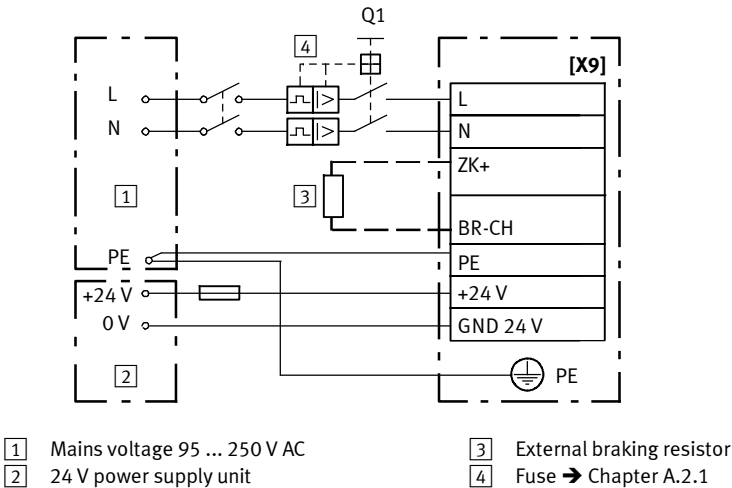

Fig. 4.4 Connection to the supply voltage
- Before commissioning, and also for brief measuring and test purposes, connect the PE protective conductor → Fig. 4.4: